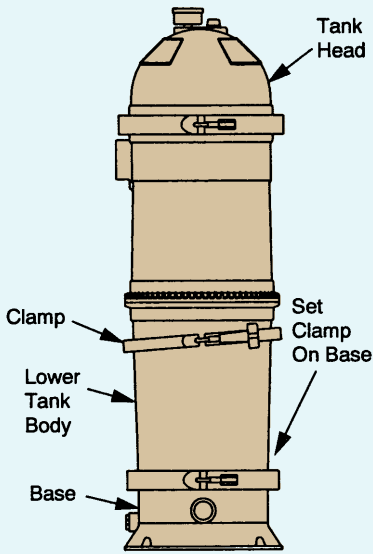

FIGURE 1A – PTM135
2. Remove Clamp Fastener from clamp indicated in Figures 1A and 1B.
3. Loosen indicated clamp (see Figures 1A and 1B); remove clamp by lifting straight up over tank or dropping it onto filter base (See Figures 1A, 1B and 2).